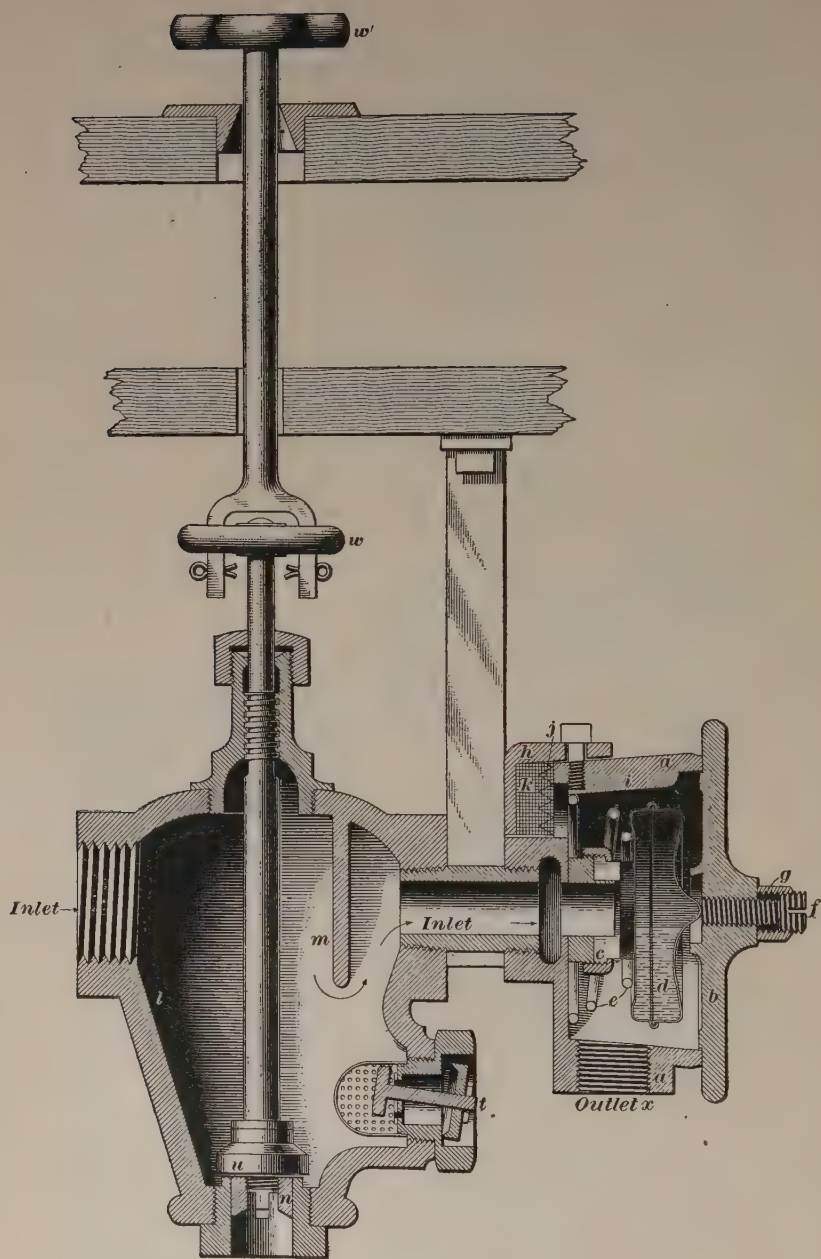
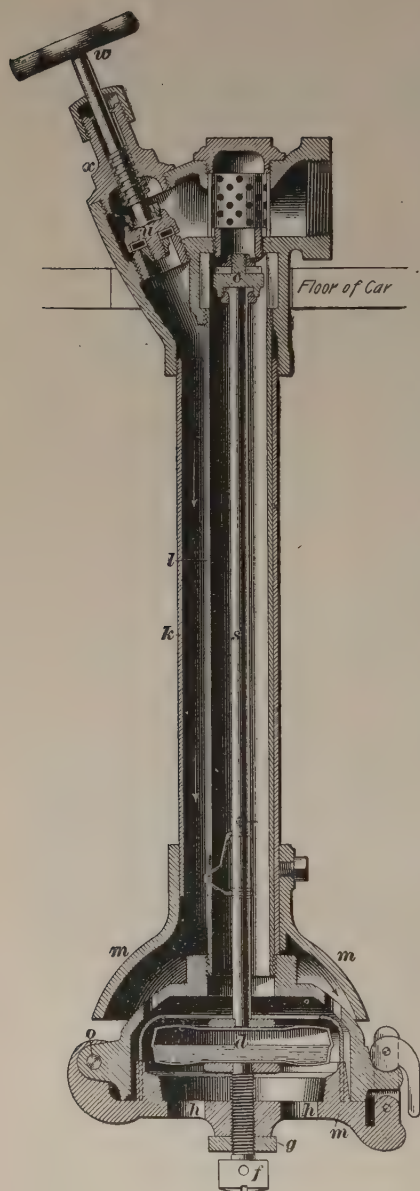

FIG. 13
FIG. 14
couplers from above, showing them in the act of being brought together, the two gaskets *g* just coming in contact. If either of these gaskets leaks, the defective one can be pulled out with a small hook and a new one put in its place. This hose coupler is provided with a *gravity relief trap*, the trap as a whole being in a horizontal position when the hose are coupled up. When steam first passes into the coupler, it acts on the baffle plate *t* of the trap, Fig. 13, and forces the valve up against its seat, preventing any escape of steam. As soon as the steam pressure is released, the weight of the baffle plate causes it to fall, tilting the valve as shown, thus opening the trap and releasing all water from the coupler.
steam trap, Fig. 13, to which is attached a sediment well and a gravity relief trap, is used with this system.
34. Vertical Steam Trap.—When it is found desirable to use traps that shut off the condensed steam within the car body, the trap shown in Fig. 14 is used. The trap is placed in a vertical position, with the cast-iron trap head, which contains the automatic valve, inside the car, the body of the trap extending through the floor, as shown; the expansion device is at the bottom of the trap, and when the latter is placed in position in the car the upper part of this device comes inside the car. The amount of expansion that must take place before operating the valve is adjusted by means of the screw *f* and the locknut *g*; this is usually regulated at the terminals. The blow-off valve *w* is provided so that when so desired this apparatus and
rear train-pipe valve and open the globe valve at the heater. When working this globe valve, remember to always open it wide and close it tight, respectively. The pressure gauge at the stove should show from 10 to 40 pounds of steam, according to requirements as dictated by the weather. Whenever steam is being used in a car, hot water should escape from the steam trap under that car. If it appears that the trap does not let the water out freely enough, open the blow-off valve inside the car by turning the handle w' , Fig. 13, or w , Fig. 14, just sufficient to let the water escape freely without blowing steam. By doing this, dry, hot steam can be retained in the pipes and increase the heating power of the coils in the heater.